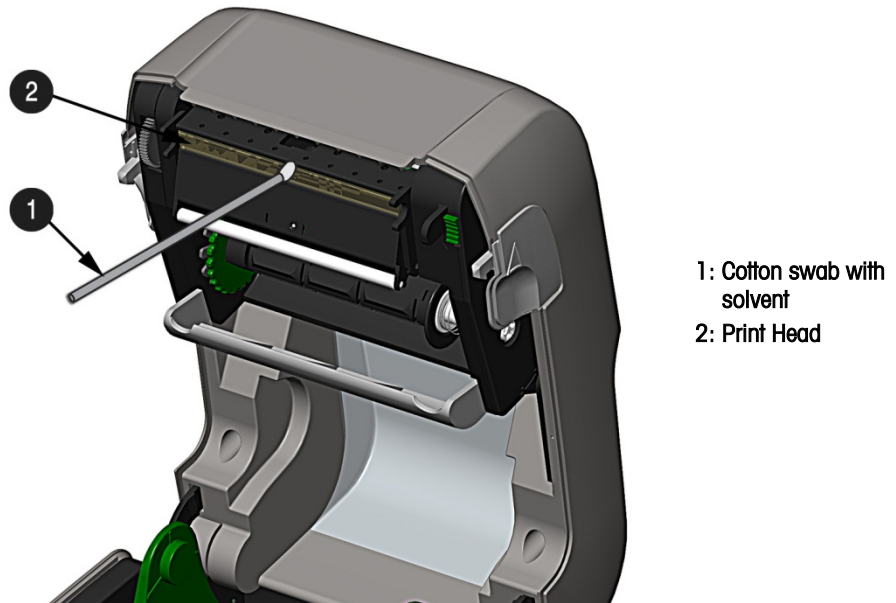

Figure 4-2: Cleaning the Print Head with a Cotton Swab
3. Using a Cotton Swab moistened (not soaked) with isopropyl alcohol, thoroughly clean the Print head (Figure 4-2).